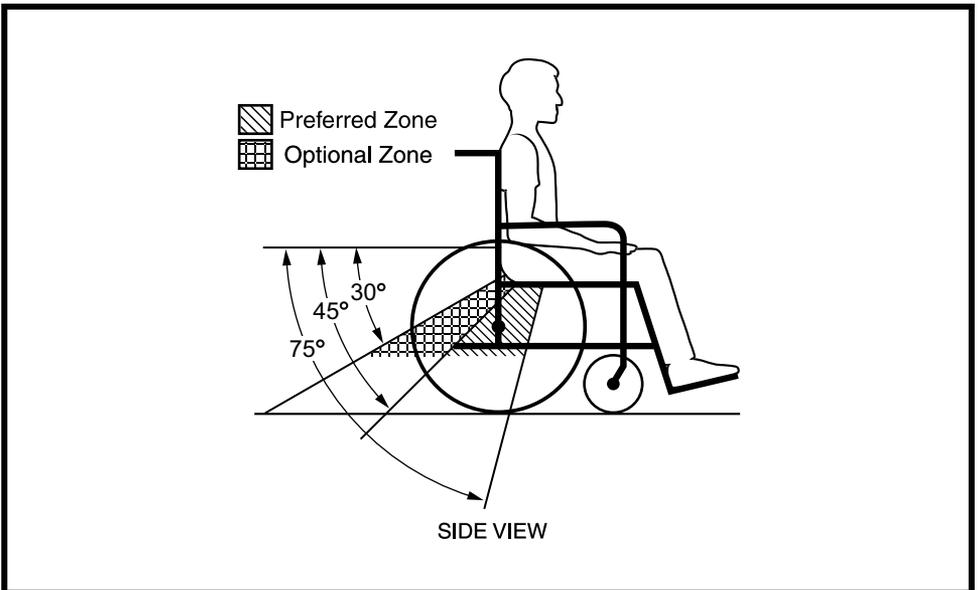

Figure 4. Recommended Pelvic Belt Placement Angles
- Attach the four tie-down straps only to designated, labeled transit securement points indicated by anchor symbols on the wheelchair. See figure 4. Tighten the straps to sufficiently remove all slack.